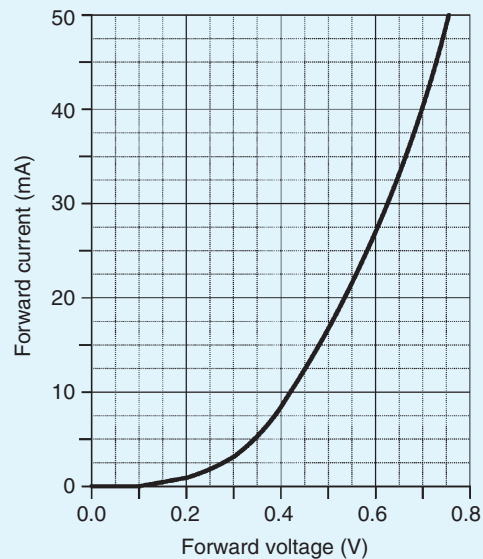

Figure 11.13
11. The graph shown in Fig. 11.13 was obtained during an experiment on a diode. (a) What type of diode is this? Give reasons. (b) Determine the forward current for a forward voltage of 0.5 V. (c) Determine the forward voltage for a forward current of 30 mA. (d) Determine the resistance of the diode when the forward voltage is 0.4 V